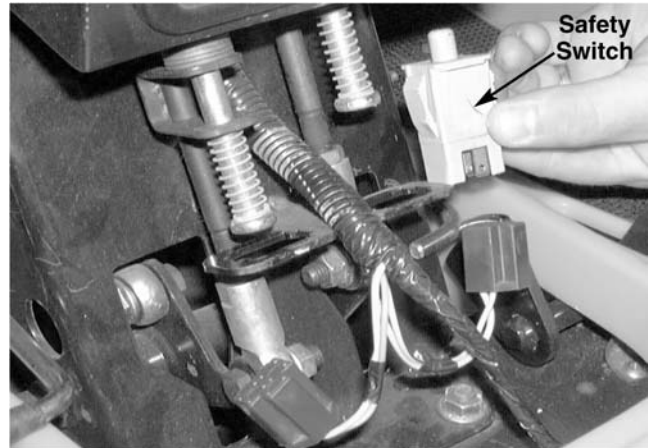

Figure 10-4.
9. Remove both safety switches from the irrelative holders by squeezing the retaining clips in and pushing upward until they are clear of the securing brackets. See Figure 10-4.